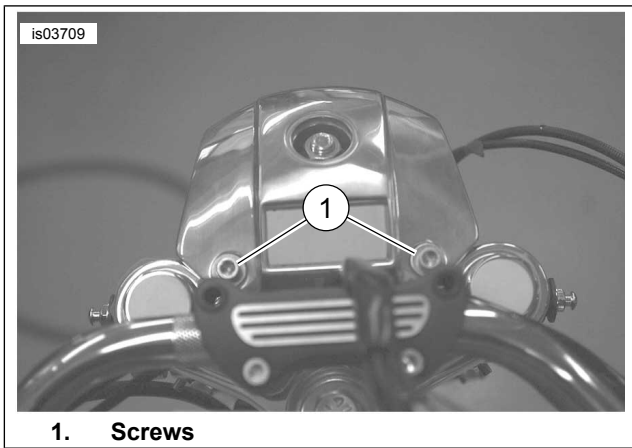

Figure 3. Remove Headlamp Mounting Bracket Hardware
5. See Figure 3. Remove the two screws (1) and washers securing the headlamp mounting bracket and gently allow the mount to hang down to the left side of the forks. Save bracket screws for installation.
23. See Figure 3. Return headlamp bracket to its mounted position and secure using two screws (1) and washers removed in earlier step. Tighten to 120-192 in-lbs (14-22 Nm).